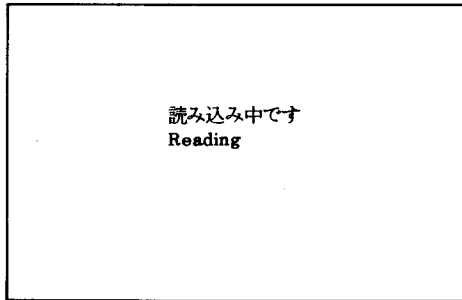
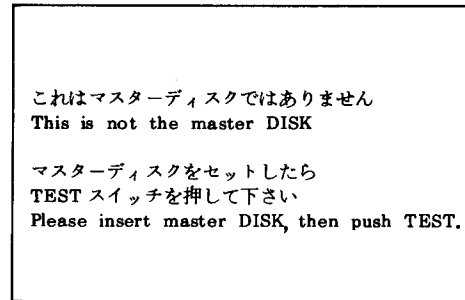

Fig. 3
Fig. 4
(2) In (1) above, after the master disk is set to FLOPPY DISK DRIVE, pushing the TEST SW will result in the Fig. 3 display with the disk in the state of reading. At this time, where PROTECT SWITCH is not set to WRITE NO, the Fig. 4 display will be indicated. Therefore, set PROTECT as above and insert the disk again and push the TEST SW.